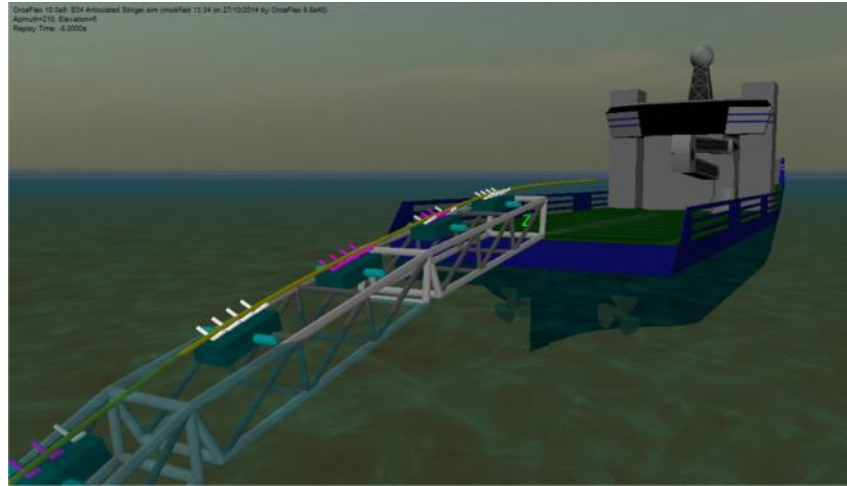

Figure 6-1: Supports on a Pipelay Stinger
-) Pipelay stingers (**Figure 6-1**)